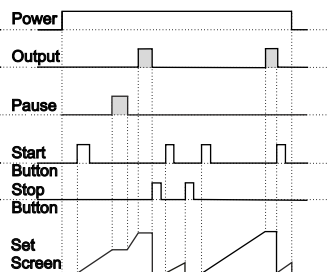

Figure 2.4
1.4.2 If Upcount **Incr**=0 and **OutF** is **Off** the control diagram is shown in Figure 2.4